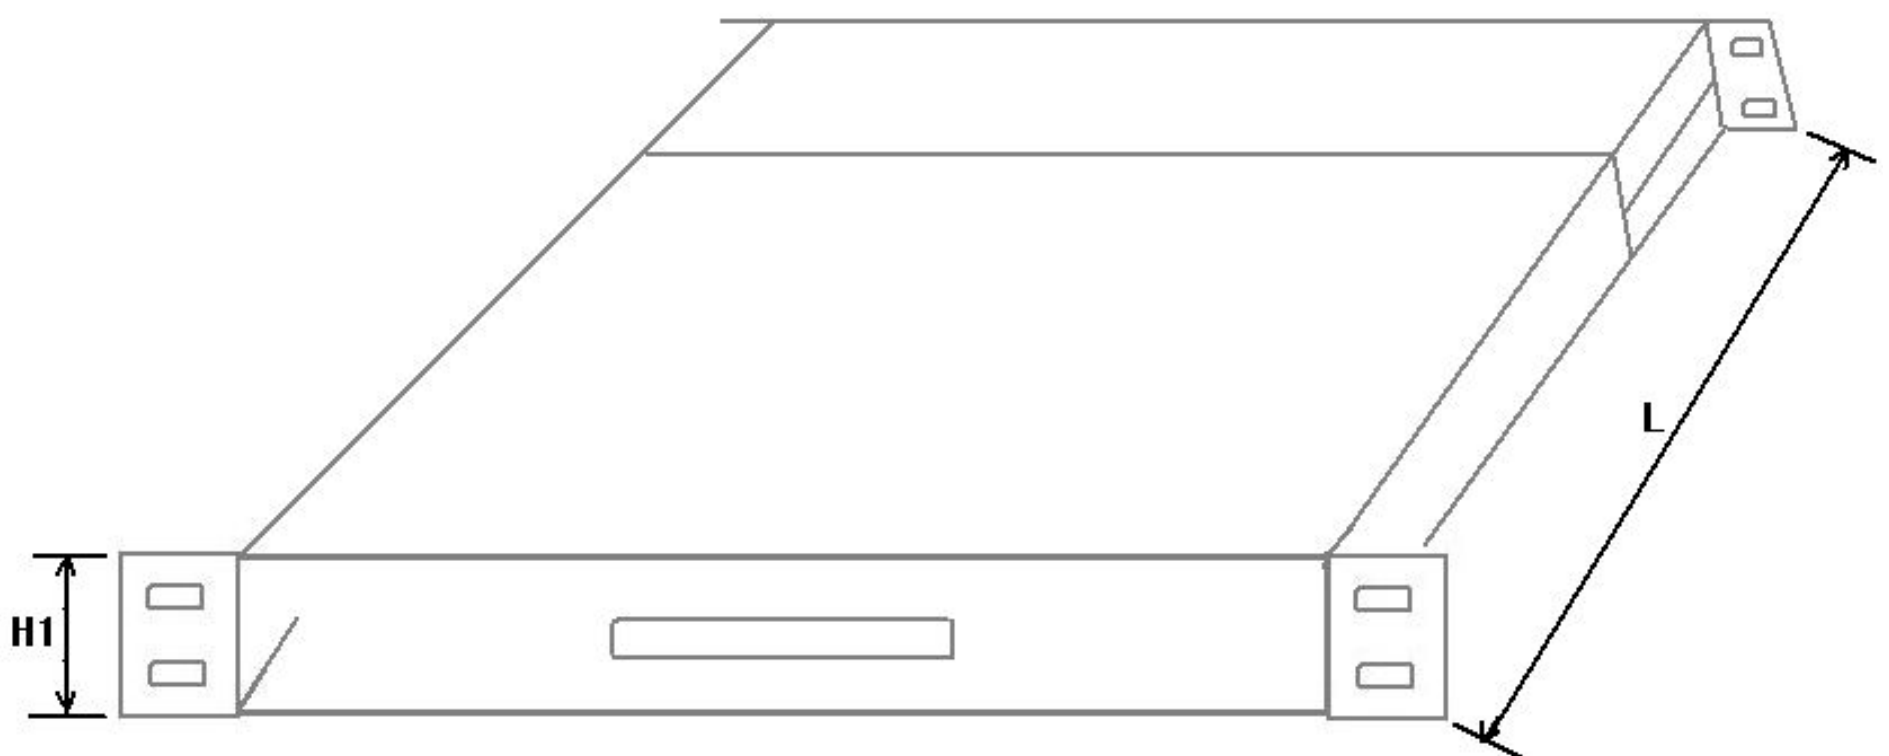

Figure 1
1. See Figure 1, when the pull-type monitor is fully folded, press the front two white screws tighten at the same time, the monitor can be fixed, so installed in the slide screen will not slide out. When the pull-up monitor is fully folded, its height H1 is 1U high and the width W is the standard 19-inch rack-mounting width, with four screw holes on each of the front and rear sides to secure the machine stand, while the L length is Tune, the shortest is 470mm, the longest is 525mm.